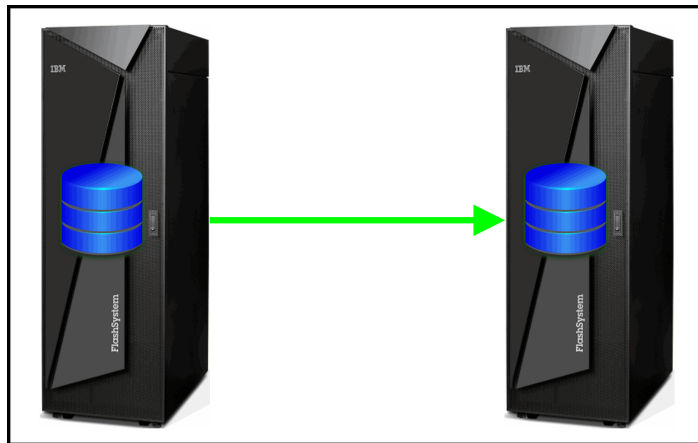

Figure 1-1 One-to-one target configuration
The most typical IBM FlashSystem A9000 and A9000R remote mirroring configuration is a one-to-one relationship between a local system (production system) and a remote system (DR system), as shown in Figure 1-1. This configuration is typical where there is a single production site and a single disaster recovery (DR) site.